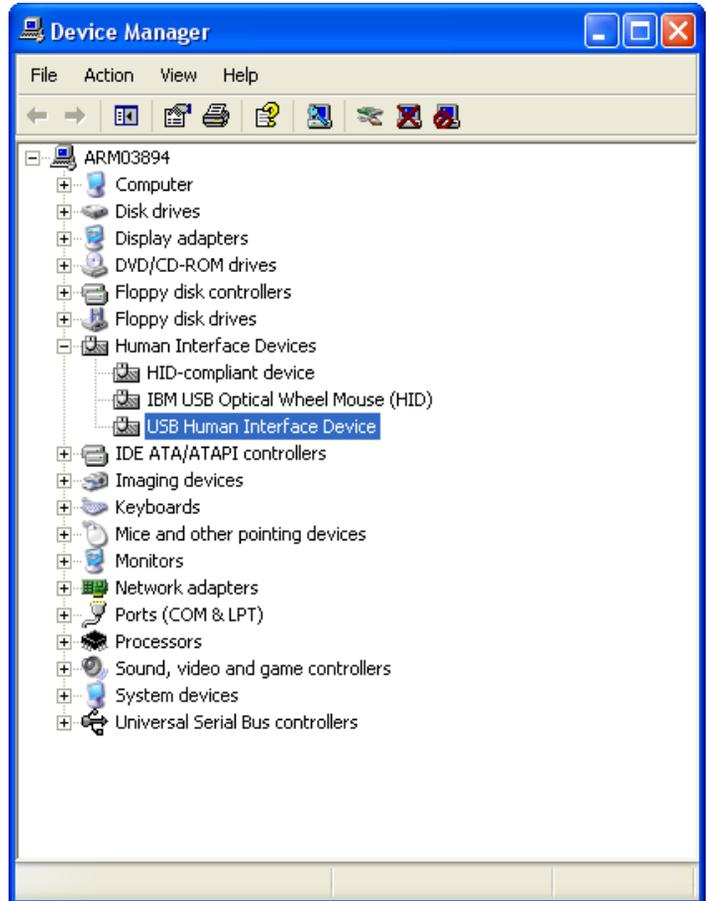

Figure 1-4 USB human interface device
6. You can check the status of this USB HID device in the Device Manager panel. From the **Control Panel**, double click **System**. Select the **Hardware** tab. Then select **Device Manager**. In the **Human Interface Devices** group (see Figure 1-4 on page 1-13), double click **USB Human Interface Device**. This represents the Keil MCBSTR9 evaluation board. Check that this device is enabled and working properly.